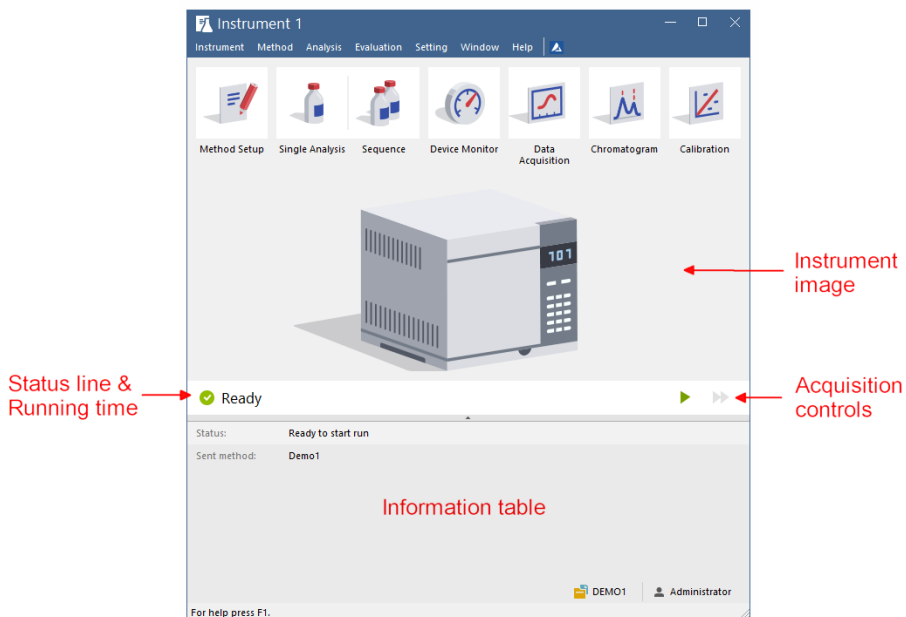

Fig 3: Instrument window
- The **Instrument** window will open; **Fig 3** on pg **10**. shows the most important icons in this window. During the tour, we will present all windows related to these icons.
- Run the analysis by clicking the *Run* button ⑦. The **Single Analysis** dialog will close now, but if you open it again, you will see three more buttons (*Stop*, *Abort*, *Snapshot*) accessible, allowing you to stop or abort the analysis or take snapshots (see the chapter "**Data Acquisition window**" on pg 14.).
- In the **Instrument** window, look at the *Status line* (see **Fig 3** on pg 10.). The acquisition is now signaled by the *RUNNING* state and the actual run time is displayed there.
- To see the data acquisition in process and possibly control it, use the **Data Acquisition**  icon (see **Fig 3** on pg 10.) to enter the **Data Acquisition** window.
- In the **Data Acquisition** window two signals can be seen. This is because the analysis is set as two-detector ① analysis.